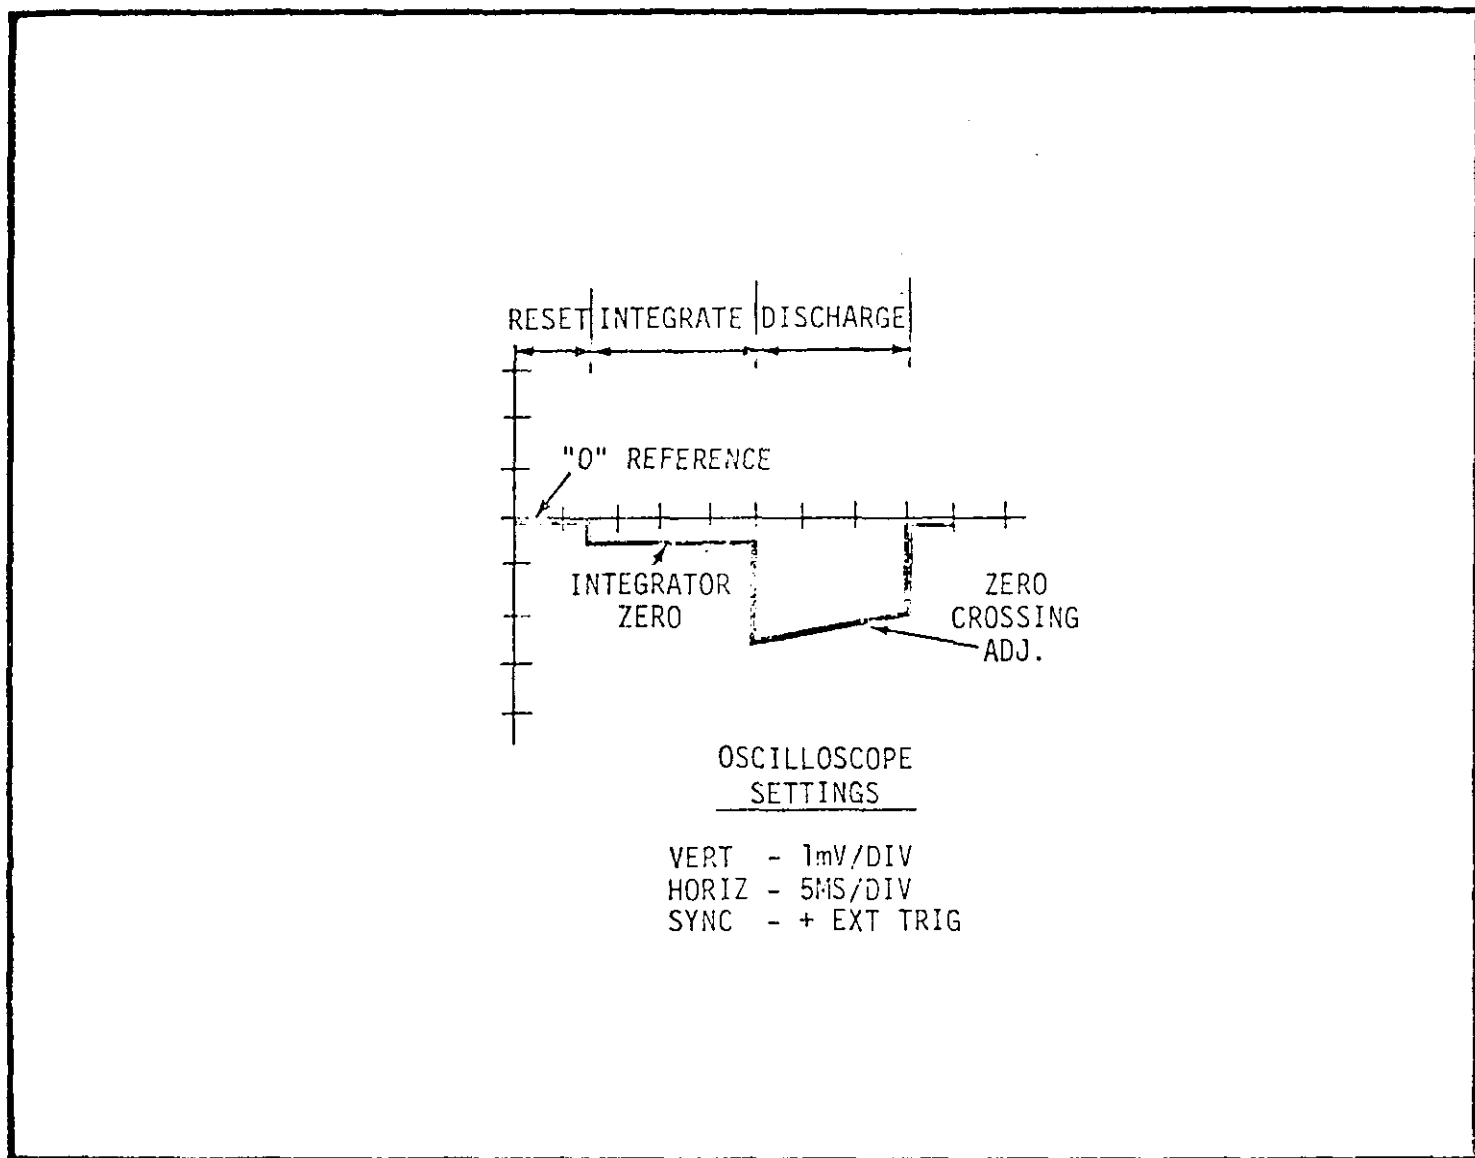

FIGURE 28. A/D Converter Zero Adjustments.
8. Adjust INTEGRATOR ZERO (R632) to minimize wave-form amplitude as shown in Figure 28.
9. Adjust ZERO CROSSING ADJ. (R649) to minimize wave-form amplitude as shown in Figure 28. Increase Oscilloscope vertical sensitivity as necessary (to 1mV/div, dc coupled).